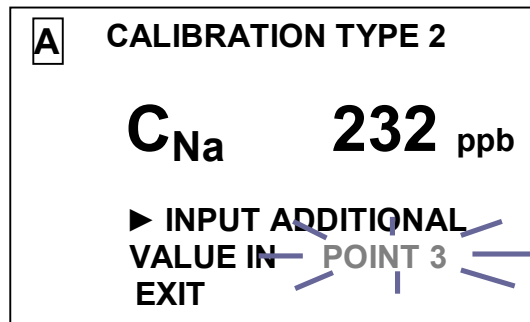

Fig. 2.39
enter" button. The display shown in Fig. 2.39 shall come up.
- 27 Enter 230 ppb value on the display as shown in Fig. 2.39.